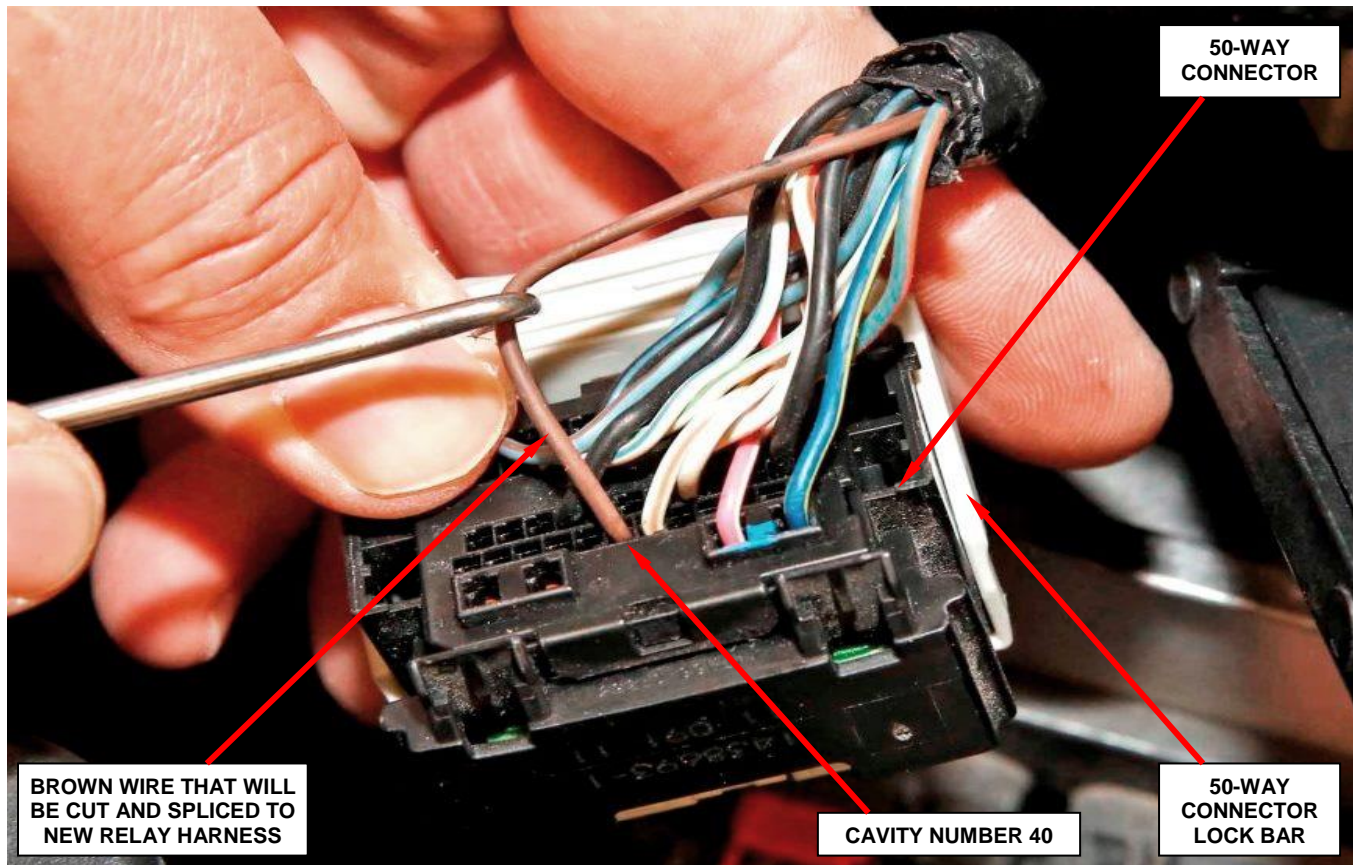

Figure 6 – Locate Brown Wire in 50-Way Connector
8. Locate the brown wire in cavity number 40 of the 50-way electrical connector (Figure 6).